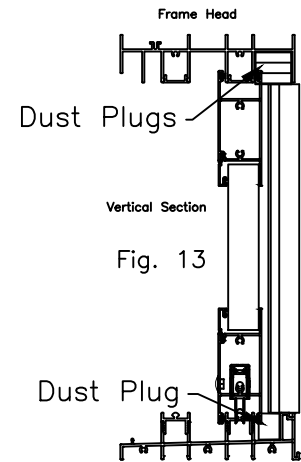

Fig. 13
- a) Dust plugs are used top and bottom of pocket hook strips to bridge voids in weatherstrip contacts. Place stick-on dust plugs as shown in Fig. 13.